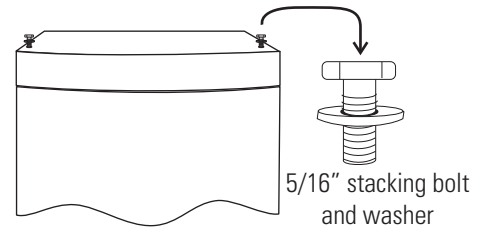

Figure 1-6. Bolt Holes
- Remove the two plastic plugs from the bolt holes in the exterior top of the bottom unit. Install the ½" long 5/16-18 stacking bolts and washers (Figure 1-6) into the bolt holes - do not tighten the bolts at this time.